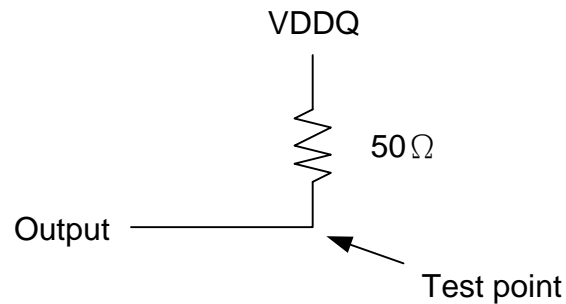

Figure 4: Pulldown slew rate test load
- b. Pulldown slew rate is measured under the test conditions shown in Figure 4.